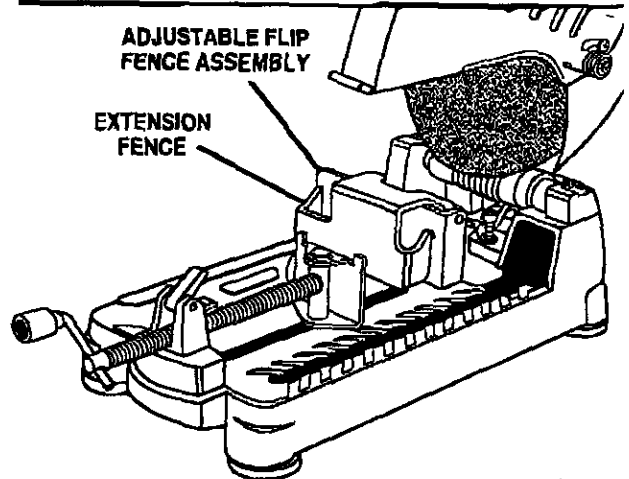

Fig. 8
- To increase the height of cut of your cut-off machine, flip the extension fence down as shown in figure 8. This position is good for cutting tall and thick pieces of stock, such as square or tube stock.